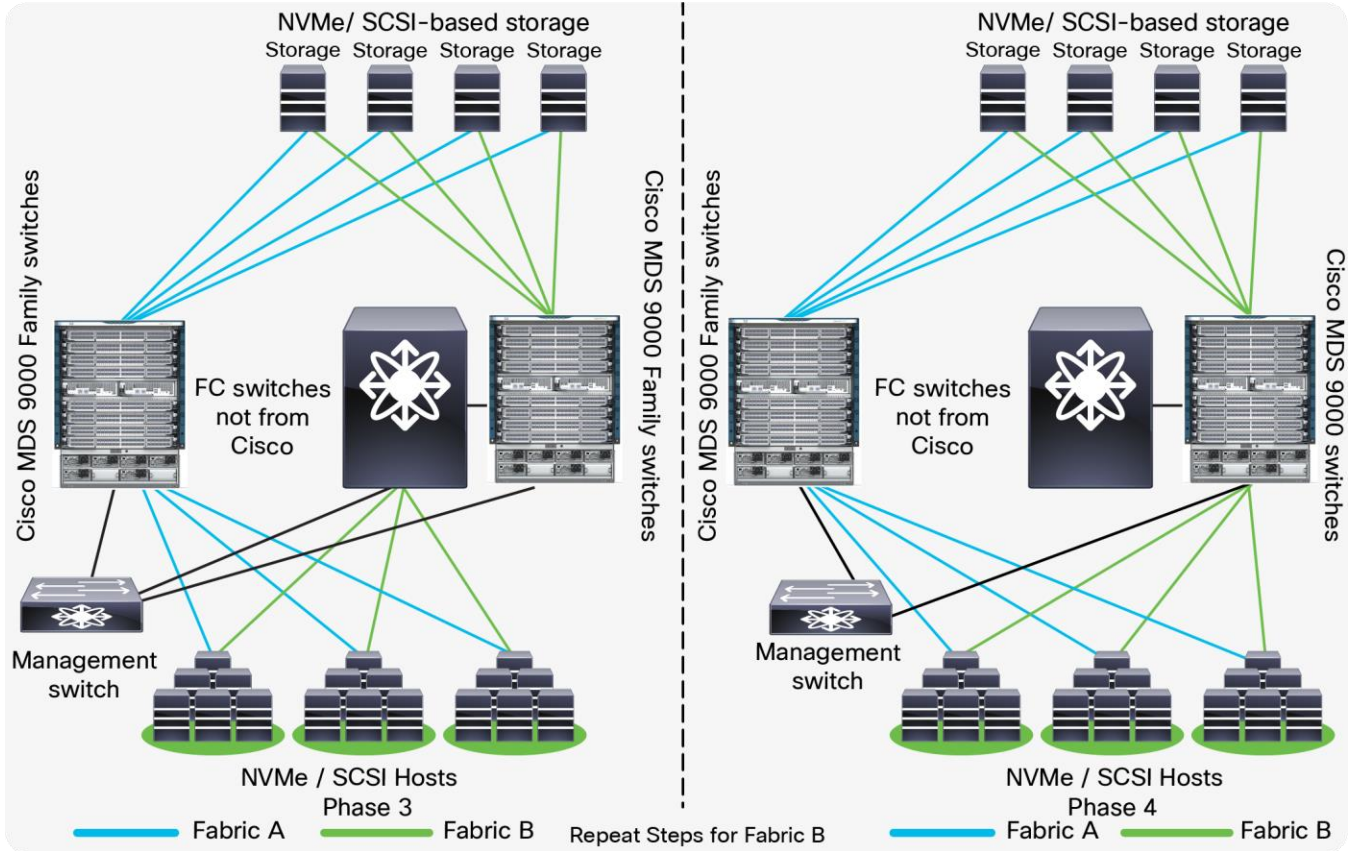

Figure 8.
Step 5. Repeat steps 1, 2, 3, and 4 to replace the Fabric-B SAN switch with a Cisco MDS switch and then take the Brocade SAN switch offline (Figure 8, Phase 3 and Phase 4).